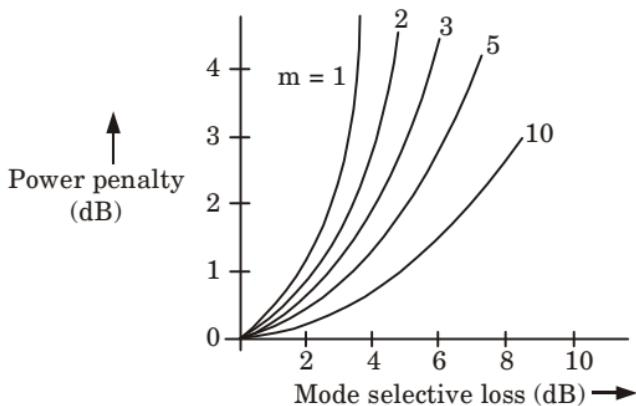

Fig. 5.13.1.
- Fig. 5.13.1 shows power penalty at